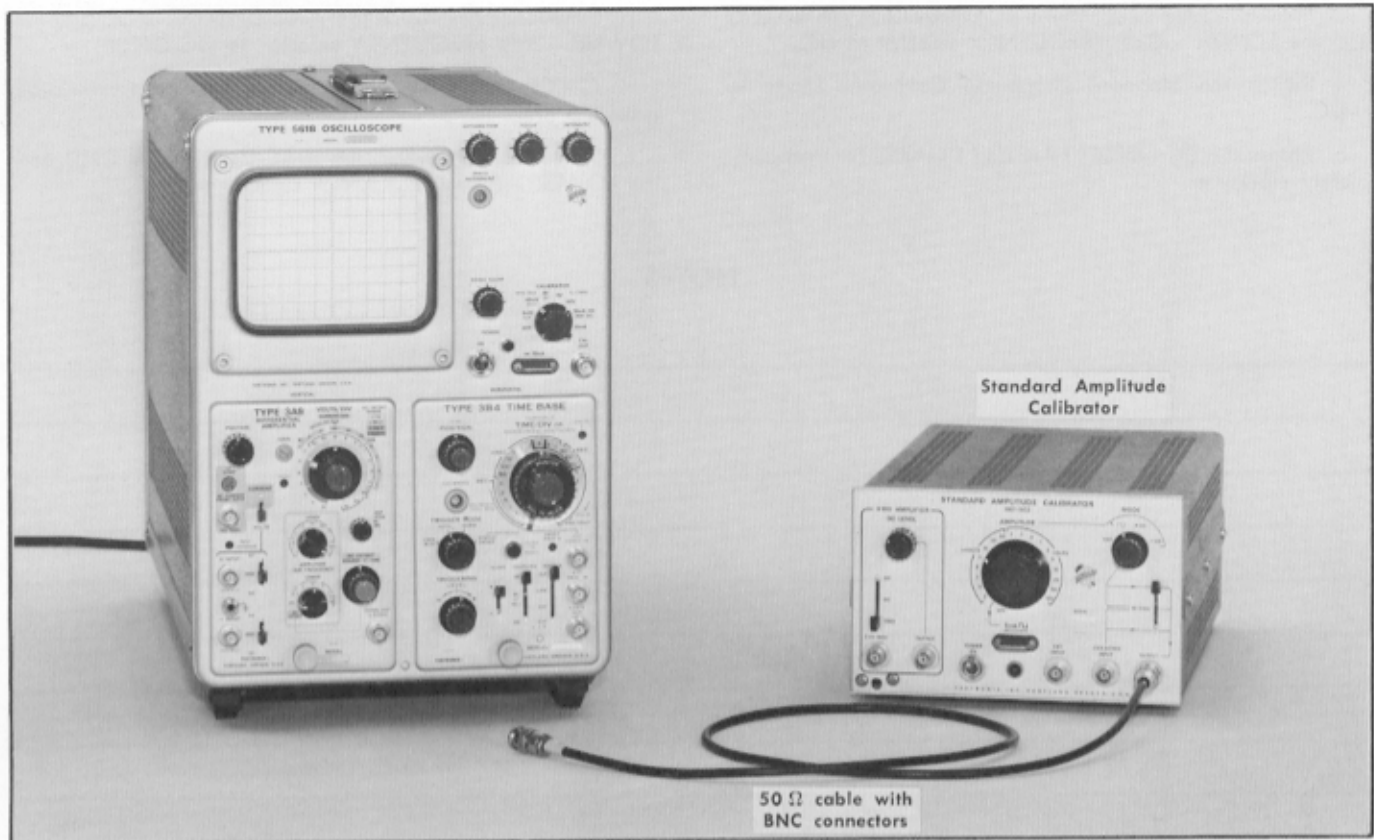

Fig. 5-7. Equipment required for step 9.
a. Test equipment is shown in Fig. 5-7.